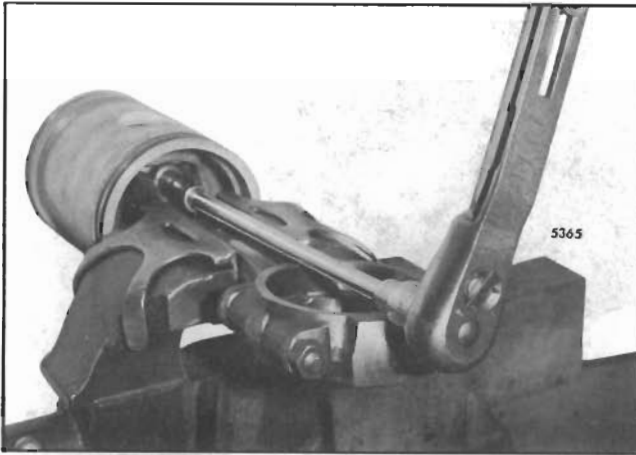

Fig. 8 - Tightening Connecting Rod to Piston Pin Bolts
7. Install and tighten the bolts finger tight. Then clamp the connecting rod in a vise and tighten the bolts to 55-60 lb-ft (75-81 Nm) torque (Fig. 8). Do not exceed this torque.